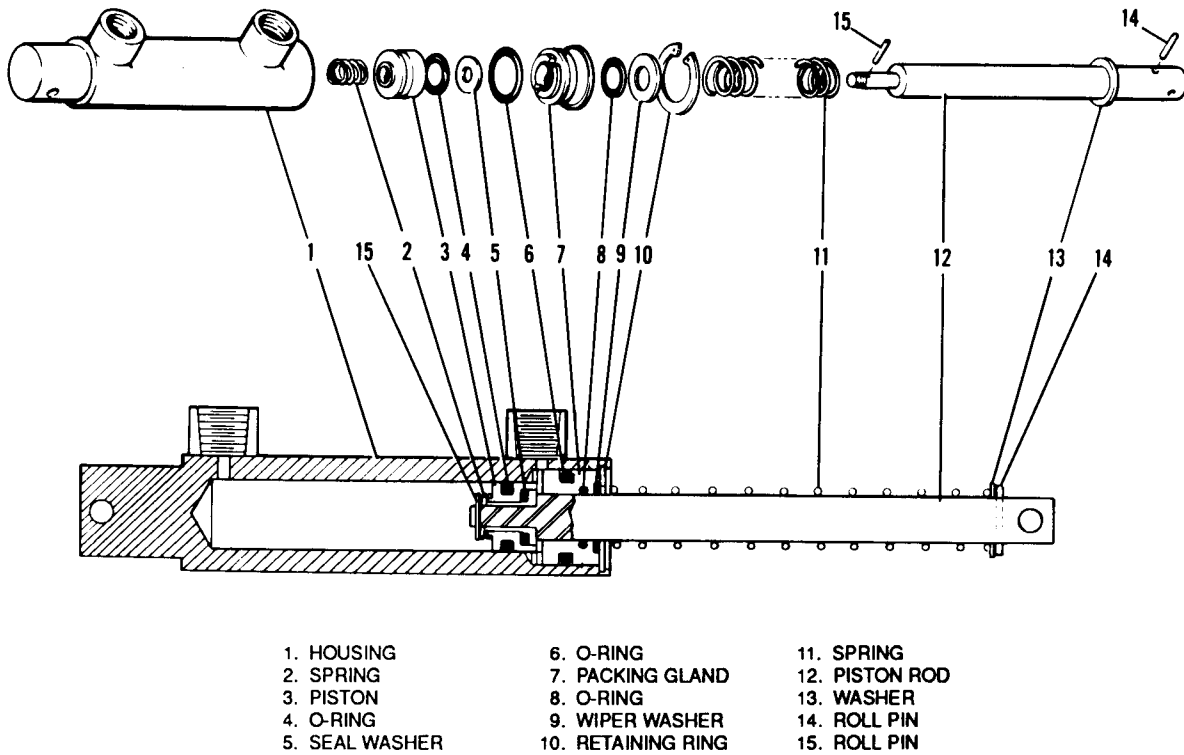

Figure 7-25. Brake Cylinder
2. To disassemble the cylinder, first remove the piston rod assembly by unscrewing the fitting (8) from the cylinder.
3. The piston rod assembly may be disassembled by first removing the retaining ring (2) and securing the sleeve, and then the spring (4), piston (6), seal (7), fitting (8) and if desired, the large return spring (11).
- b. Cleveland cylinder number 10-27. (Refer to Figure 7-25.)
2. To disassemble the cylinder, first remove the piston rod assembly by removing the retaining ring (10) from the annular slot in the cylinder housing (1). Draw the piston rod assembly from the cylinder.
3. The piston rod assembly may be disassembled by first removing the roll pin (15), spring (2), and then the piston assembly (3), seal (5) and packing gland (7), and if desired, the large return spring (11).
1. Install new O-rings on the inside and outside of the fitting (8) and on the outside of the piston (6).
2. To assemble the piston rod assembly, install on the rod (12), in order, the roll pin (14), return spring retainer washer (13), return spring (11), fitting (8) with O-rings, seal (7), piston (6) with O-ring, spring (4) and sleeve (3). Secure these pieces with the retaining ring (2) on the end of the rod.
3. Insert the piston rod assembly in the cylinder (1) and secure fitting (8).
1. Install new O-rings on the inside and outside of the packing gland (7) and on the outside of the piston (3).
2. To assemble the piston rod assembly, install on the rod (12), in order, the roll pin (14), washer (13), spring (11), washer (9), packing gland (7) with O-rings, seal (5), piston assembly (3) with O-ring, spring (2), and roll pin (15).
3. Insert the piston rod assembly in the cylinder (1) and secure with the retaining ring (10).